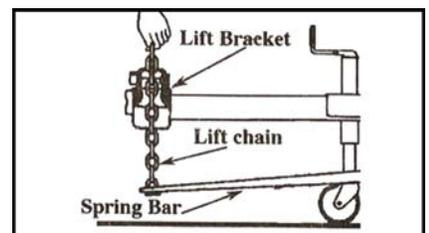

Figure 13: Center the lifting bracket parallel with the spring bar chains.
•Position the spring bar, which has been attached to the hitch head, parallel with the trailer tongue. Hold the lift chain vertical up alongside the trailer tongue. Position the lift bracket on the trailer tongue so that the chain is centered between the lift bracket (see Figure 13). NOTE: If chain is angled it may catch the bracket when turning, this can damage the lift bracket or pry it open during use.
•With the lift bracket in the raised and locked position, pull straight up firmly on the spring bar lift chain. Note which link is closest to the lift bracket hook. Mark the next lower chain link (see Figure 13).